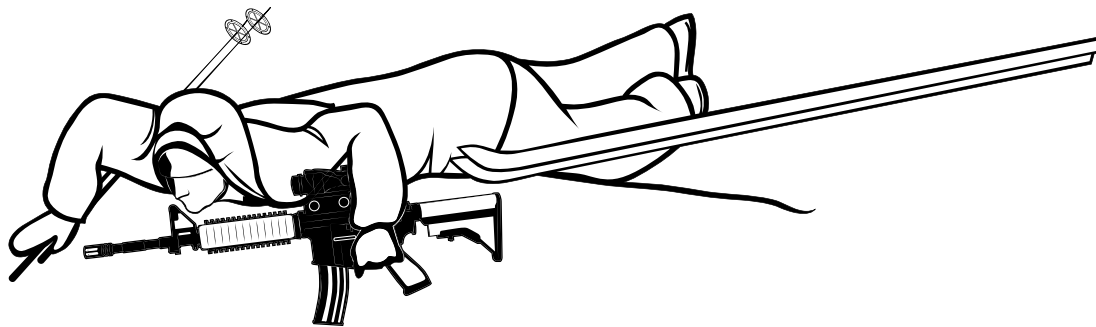

Figure 7-6. Advancing with Trail Skis.
- Carry poles in one hand and the rifle in the other or on the back. See Figure 7-6.